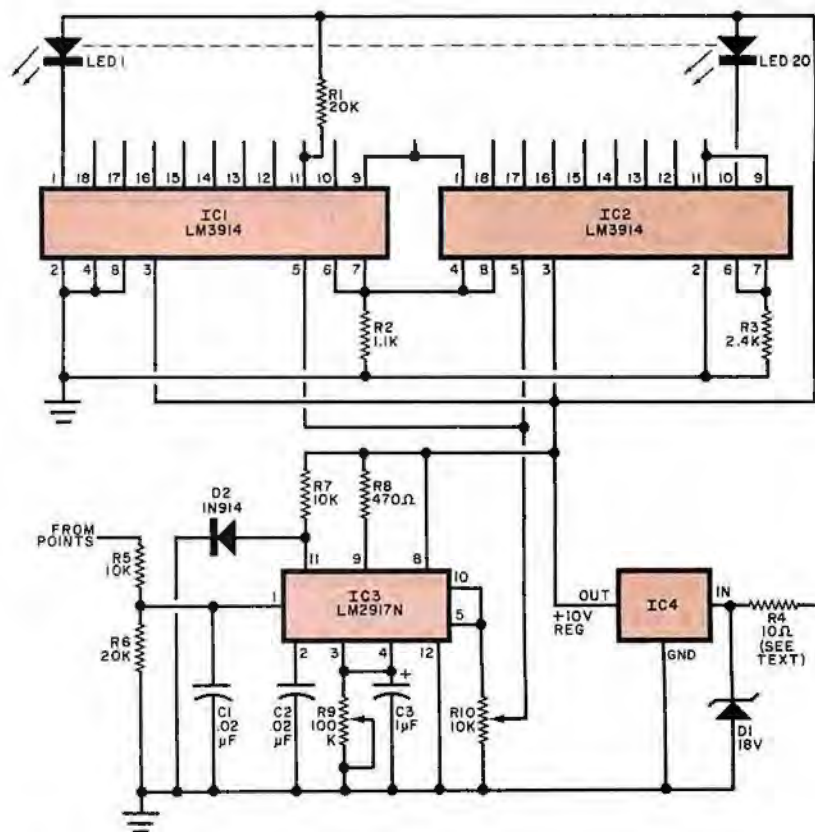

Fig. 13. Circuit for converting pulses from ignition points to voltages which activate LEDs from 1 to 20 to indicate speed.
**Tachometer.** The circuit shown in Fig. 13 consists of a basic 0-to-2.4-volt meter system and a frequency-to-voltage (f/v) converter. The voltmeter portion made up of IC1 and IC2 features 20 divisions, each represented by a LED. The IC3 f/v converter accepts varying-frequency pulses from the engine's ignition points and converts them into proportional dc voltages with constant updating.
In Fig. 13, *R5*, *R6*, and *C1* condition the input signal from the points. A stable-temperature-characteristic capacitor must be used for *C2*, which is the timing capacitor for the charge pump. Potentiometer *R9* serves as the discharge path and doubles as the scale calibration control. Charge-pump filtering is provided by *C3*. The uncommitted emitter of the internal output transistor is connected to *R10*.
#### PARTS LIST (Fig. 13)
There are simple ways to give a large measure of transient protection to home-built projects. GE's MOV transient protectors is one simple way. A second method is shown in Fig. 13, where 10-ohm resistor R4 and 18-volt zener diode D1 protect the power input line. If the circuit is to take care of a blown regulator, where 18 volts may be on the line continuously, the division of dissipated power between the zener diode and resistor must be calculated. Once breakdown occurs, the circuit will be carrying well over 1 ampere of current. This means that the power (wattage) ratings of the resistor and diode must be calculated.